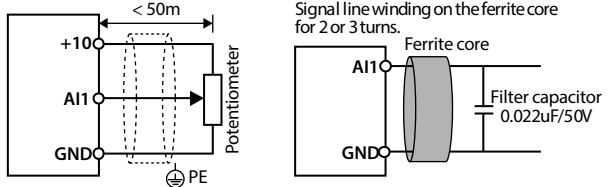
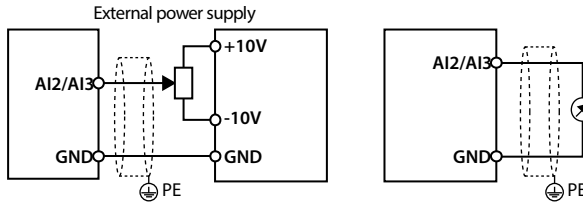

Figure 4-7 AI1 connection
Figure 4-8 AI2 connection
The AI1 is voltage input and the range is 0 - 10V, as shown in Figure 4-7.
2. In serious interference occasions, the analogue input signal should add filter capacitor and ferrite core, as shown in Figure 4-7.
AI2/AI3 are selected as voltage input and the range is -10 - +10V. When selecting internal +10V of HD50, refer to Figure 4-7; Selecting +/-10V external supply, refer to Figure 4-8.
AI2/AI3 are selected as current input and the range is 0 - 20mA, refer to Figure 4-8.